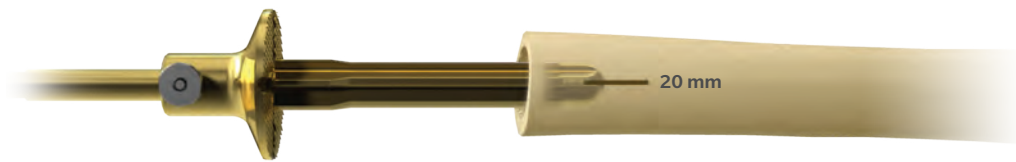

Figure 10
**Note:** If the triple reamer provides cortical contact for the anchor plug, but not the centering sleeve, reintroduce sequential triple reamers to a depth of 20 mm at the resection level until cortical contact is achieved (Figure 10). Refer to the Triple Reamer Table for the appropriate anchor plug and centering sleeve diameters.